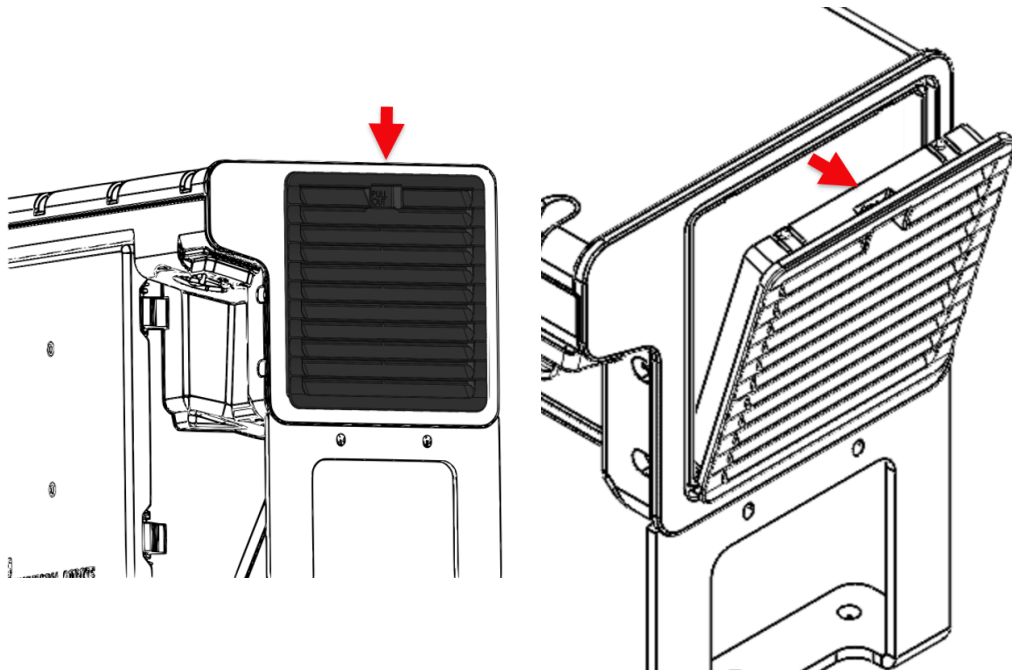

Figure 3.7. Replace the Control Box Filters.
1. Gently remove the outer plastic frame by pulling where the red arrows indicate, as shown in Figure 3.7 below. The frame tilts outward.